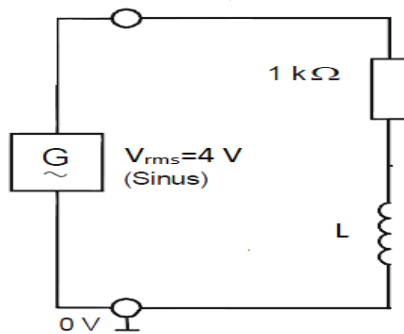

Figure 4
6. To determine the inductive reactance X_L , connect the circuit as shown in Fig. 4